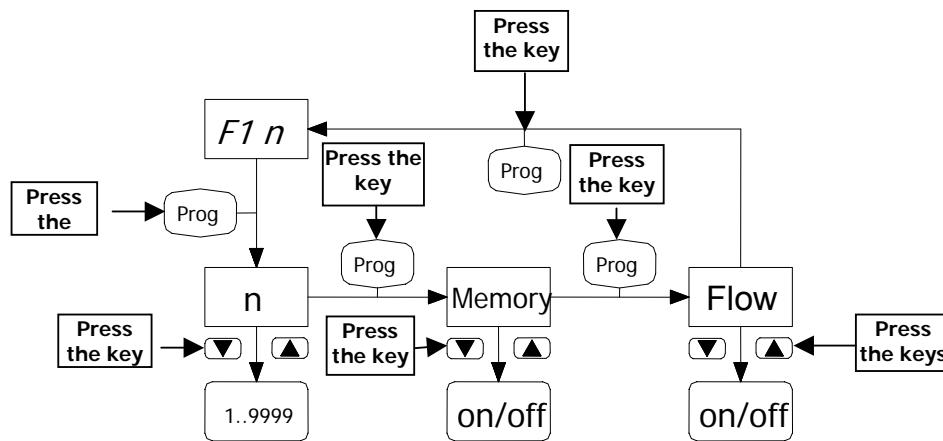

Fig. 25: 1:n Multiplication Mode Menu
– **Selecting Strokes (see Fig. 25)**
– **Memory Function (see Fig. 25)**
– **Flow Control Function (see Fig. 25)**